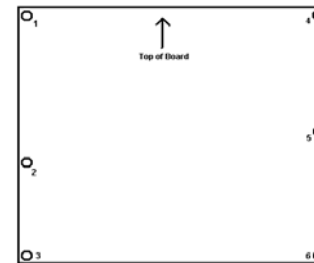

Figure 1. Mounting Screw Location
5. Remove the **six (6) mounting screws** (that hold the PC board in place) located on the back of the housing. (See Figure 1 for mounting screw locations.) Save the mounting screws.
6. If unit is **open-mounted** and installed inside a burner cabinet, remove the **six (6) mounting screws** securing the PC board to the burner cabinet. (See Figure 1 for mounting screw locations.) Save the mounting screws.